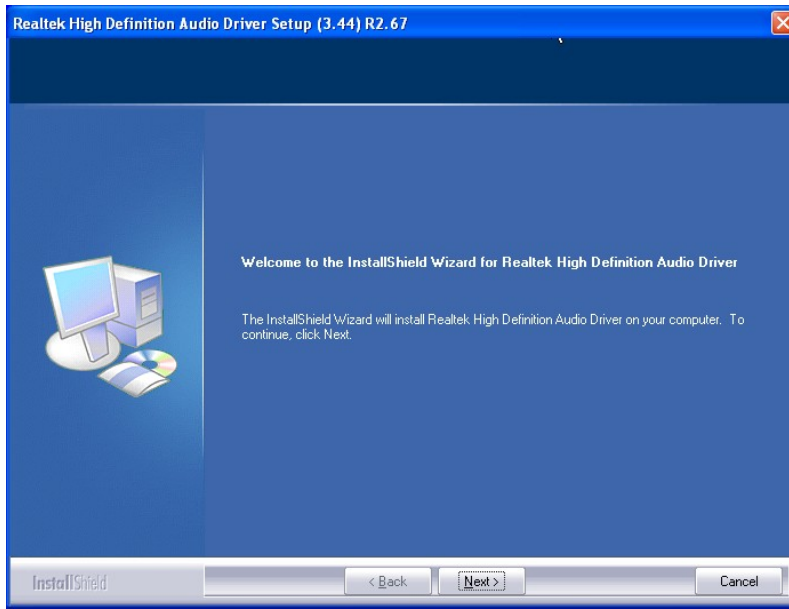

Figure 6-20: InstallShield Wizard Welcome Screen
- Step 5:** Once initialized, the **InstallShield Wizard** welcome screen appears (**Figure 6-20**).